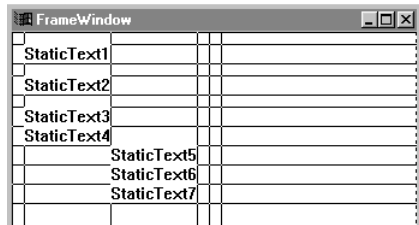

Figure 96. Multicell Canvas Showing Parts Dropped into an Expansion Row
6. Drop three more IStaticText* parts in column 3 as shown in Figure 96 on page 221.